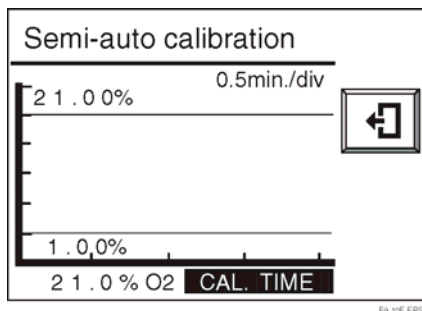

Figure 9-10 Semi-automatic Calibration Display
3. Select "Start calibration". The display shown in Figure 9-10 then appears.